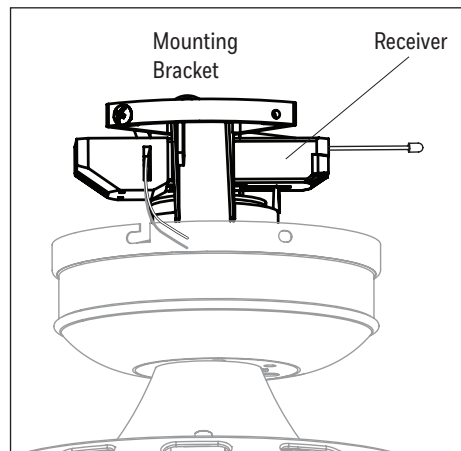

Figure 3.5
5. Connect the 3-pin connector from the downrod to the 3-pin connector from the receiver. Then, insert the receiver, antenna first, into the mounting bracket with the flat side facing the ceiling. **Note:** The receiver will rest directly on top of the downrod (Figure 3.5).